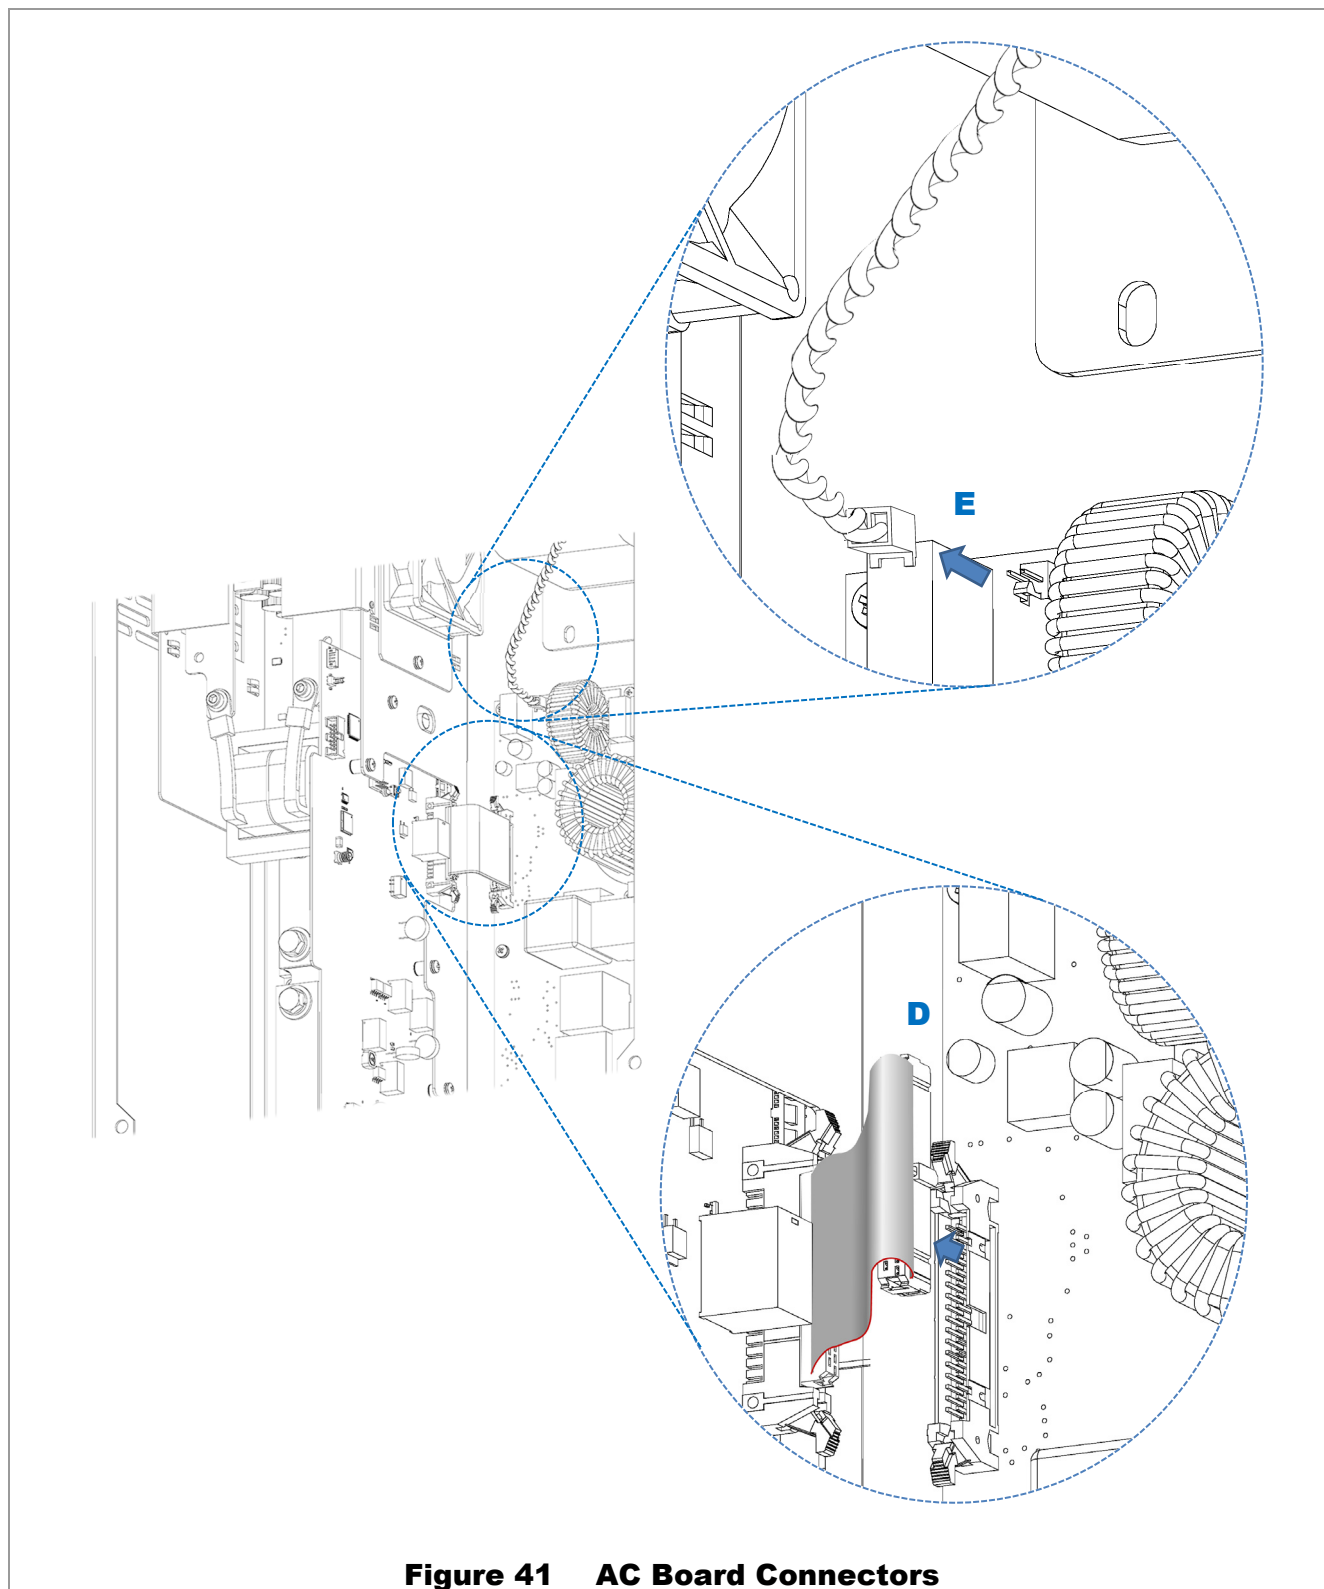

Figure 41 AC Board Connectors
3. On the AC board, remove the following connectors (see Figure 41):
- Replace the connectors **E** and **D**. See Figure 41 if necessary.